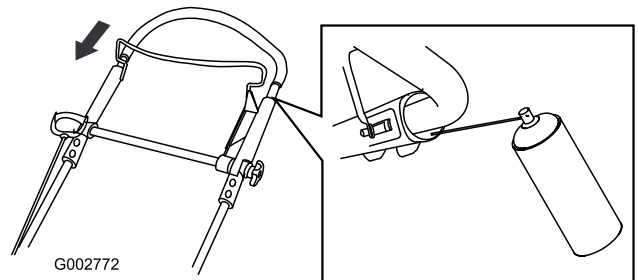

Figure 47
2. Push the upper handle fully down and spray the inner plastic surface of the outer handle (Figure 47).